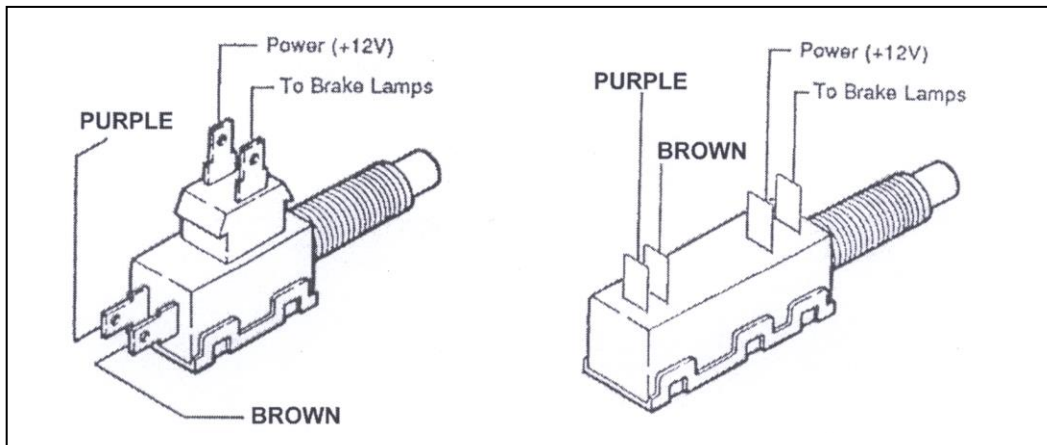

FIGURE 6.2 Brake Switch Connection
- E. If you are using the recommended brake switch then you will wire it according to **Figure 6.2**. The brown wire to the back of the switch in the illustration is the wire that has power on it whether or not the brake is being applied.